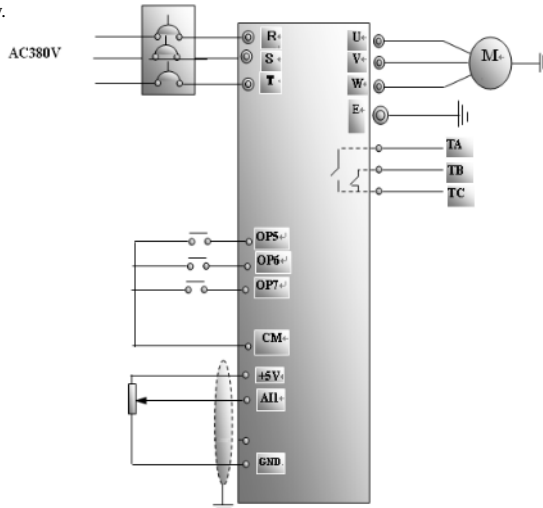

Figure 4-3 Wiring Diagram 3
(1) Connect the wires in accordance with Figure 4-3. After having checked the wiring successfully, switch on the air switch, and power on the inverter. Note: 2K~5K potentiometer may be adopted for setting external analog signals. For the cases with higher requirements for precision, please adopt precise multiturn potentiometer, and adopt shielded wire for the wire connection, with near end of the shielding layer grounded reliably.